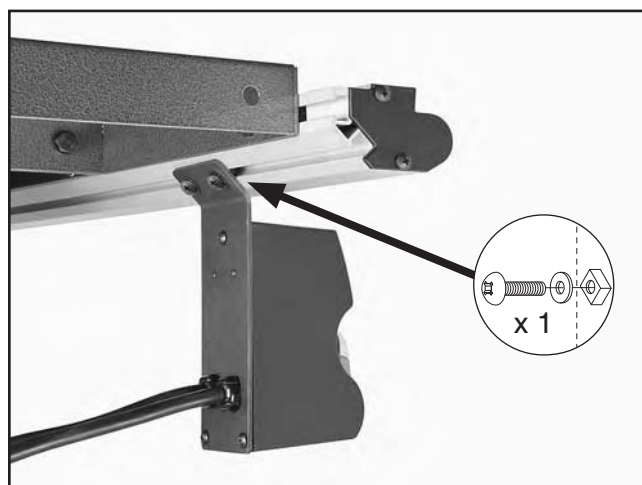

Figure 28. Switch installed onto front rail.
31. Insert (2) M6-1 square nuts into the slot on the back of the left front rail, align the nuts with the switch bracket mounting holes, then secure the switch with (2) M6-1 x 12 Phillips head screws and (2) 6mm flat washers, as shown in **Figure 28**.